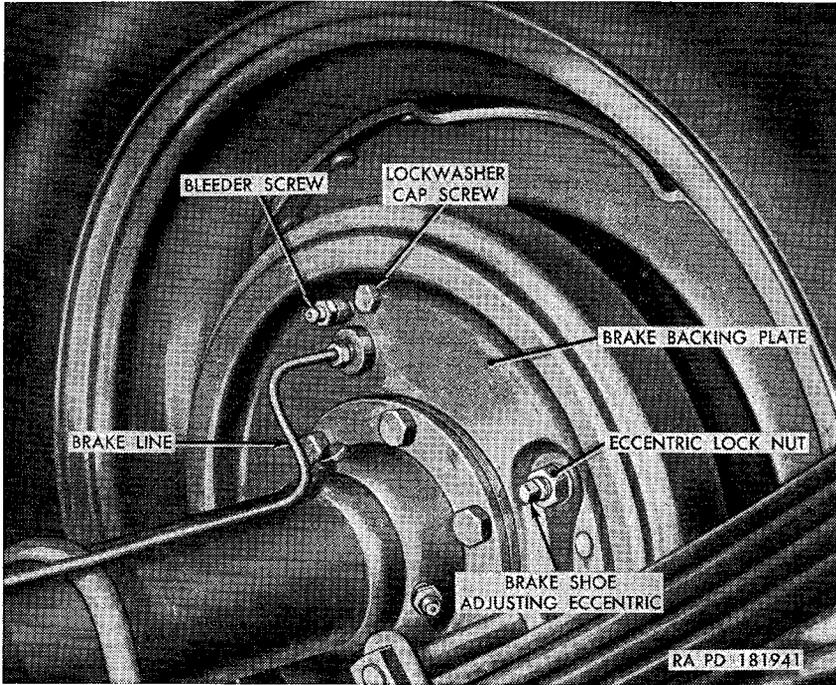
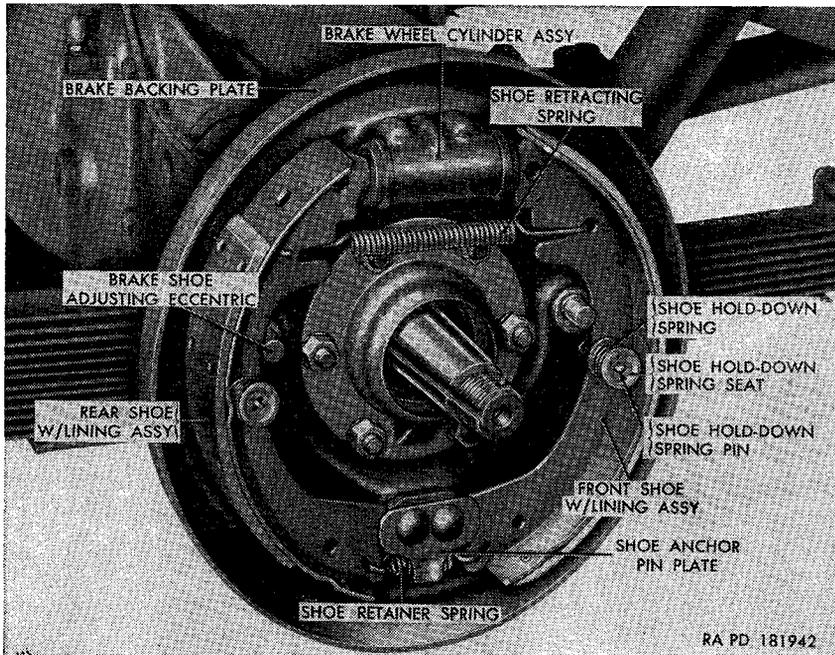

Figure 159. Rear brake backing plate installed
Figure 160. Rear servive brake assembly—wheel, hub and drum removed.
- (1) Make certain the pedal shaft assembly is lubricated and the brake pedal retracting spring is undamaged and properly connected.
- (2) Hold a rule next to the brake pedal and depress the pedal by hand. No resistance should be felt until the pedal has traveled one-half inch. If distance traveled before resistance is felt is incorrect, adjust as shown in (3) below.
- (3) Loosen the locknut on the eye bolt and turn the master cylinder push rod clockwise to decrease and counterclockwise to increase the free travel. Tighten the lock nut when adjustment is correct.
b. Service Brake Shoe Adjustment (fig. 159). Except where noted, the procedure for adjusting the service brake shoes is the same for all shoes.
- (1) Jack up the vehicle and remove the wheel and brake drum (par. 209a).
- (2) Loosen the brake shoe eccentric lock nut (fig. 159) and turn the brake shoe adjusting eccentric (fig. 160) until the low side of the eccentric touches the brake shoe.
- (3) Unhook and remove the shoe retracting spring and the (anchor end) shoe retainer spring.
- (4) Press against the shoe holddown spring seat to compress the shoe holddown spring and turn the seat until the flat end of the shoe holddown spring pin is alined with the seat slot. Remove the spring and spring seats. Remove the opposite spring and seats in the same manner.
- (5) Remove the pins through the brake backing plate.
- (6) Spread both brake shoe with lining assemblies to disengage the upper ends of the shoes from the brake wheel cylinder assembly and the lower ends from the shoe anchor pin plate. Remove both shoes with lining assemblies.
d. *Brake Shoe with Lining Assembly Installation* (fig. 160).
- (2) Unhook and remove the shoe retracting spring (fig. 160) from the upper ends of the two shoes, and spread the shoes as far apart as possible.
- (3) Disconnect the brake line from the brake backing plate (fig. 159).
- (4) Remove the two lockwasher-cap screws securing the brake wheel cylinder to the backing plate and remove the cylinder (fig. 160).
- (1) Position the wheel cylinder (fig. 160) on the brake backing plate (fig. 159) with the cylinder holes alined with the plate holes. Secure the cylinder to the backing plate with two lockwasher cap screws.
- (2) Connect the brake line to the wheel cylinder fitting in the brake backing plate (fig. 159).
- (3) Insert the brake shoe ends into the wheel cylinder ends and install the shoe retracting spring (fig. 160).
- (4) Install the drum and wheel (par. 209*b*) and bleed the brakes (par. 237).